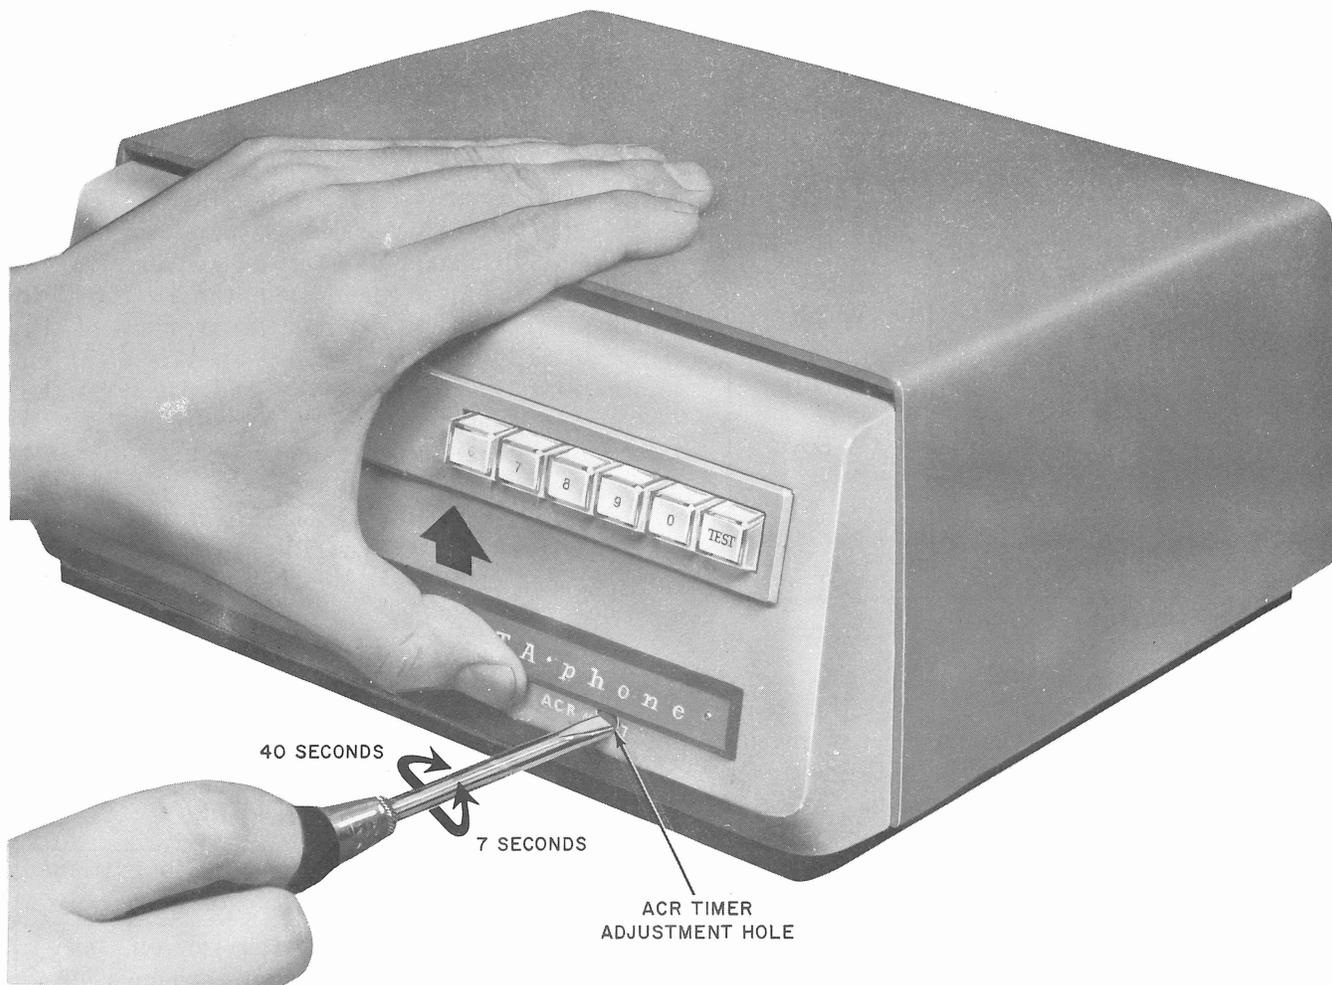

Fig. 3—Data Auxiliary Set 801C3 and 801C4—ACR Timer Adjustment
3.05 Set the abandon call retry timer (ACR) for the interval specified on the service order. In DAS 801C3 and 801C4 series 5 and above, there is an additional 40-second monitor setting that makes it possible to monitor the progress of the normal call through the ACU speaker. If no interval is specified, set the ACR timer to the 40-second position. Refer to Fig. 3 and Table D for information on setting the timer.